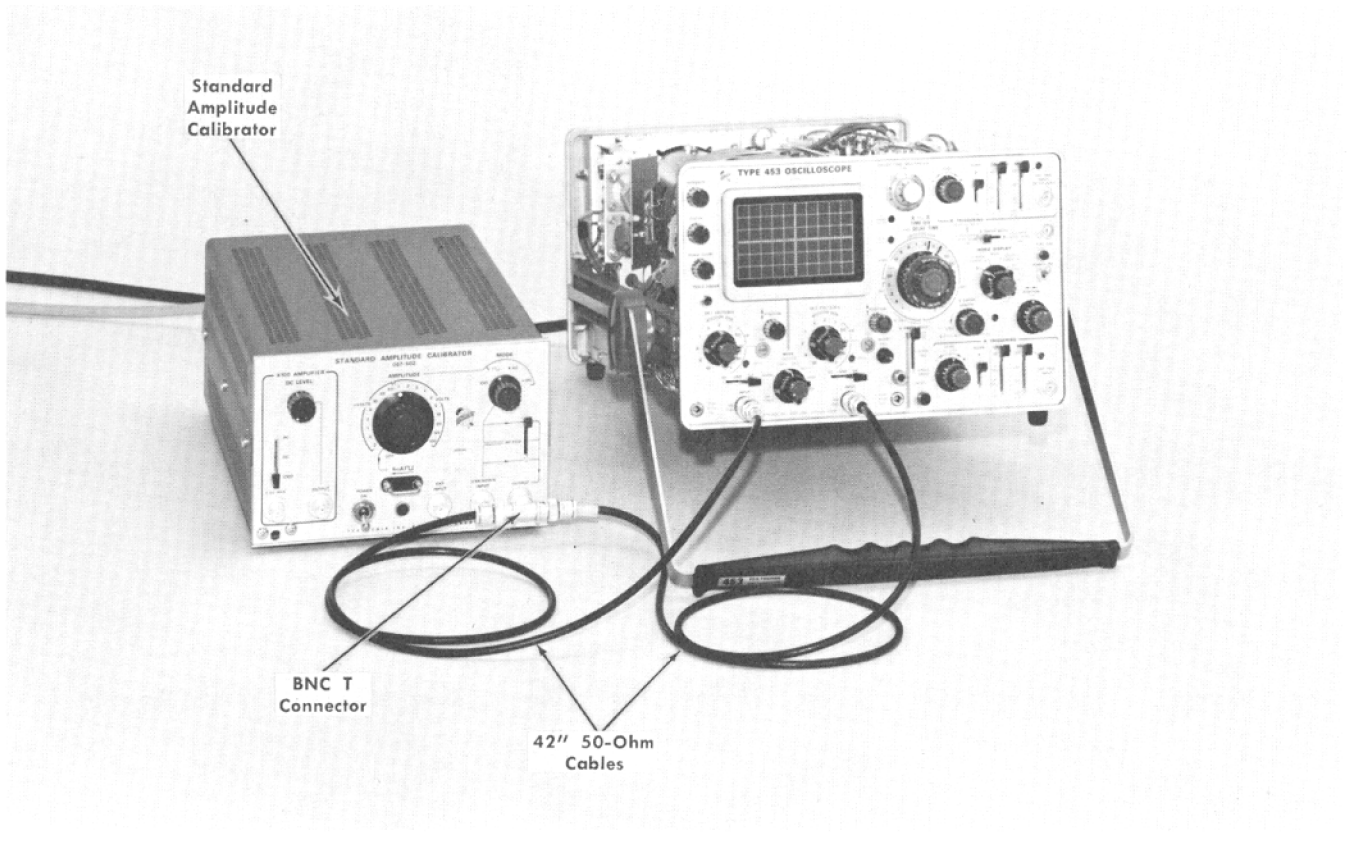

Fig. 6-20. Initial test equipment setup for steps 14 through 20.
a. Test equipment setup is shown in Fig. 6-20.